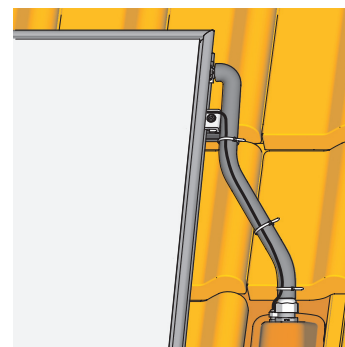

Fig. 3-48 Work step 3
3. Run the silicone-covered sensor cable to the roof penetration box (with drip-off elbow), and secure it to the mounting rail or connecting pipe by means of cable ties (Fig 3-48).